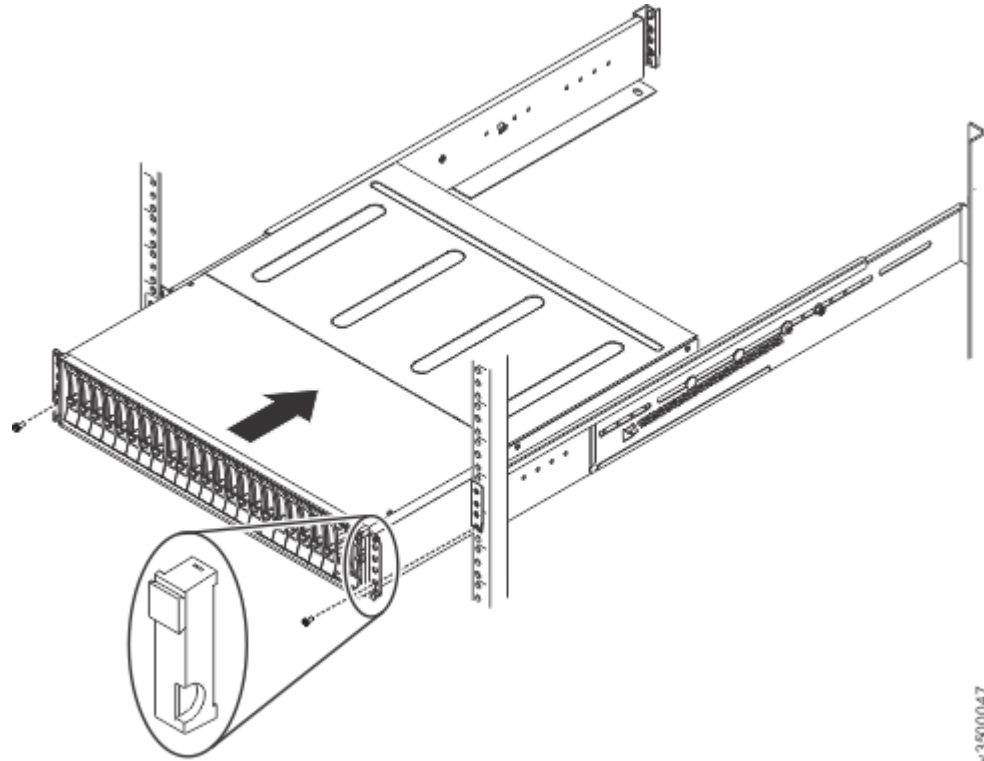

Figure 31. Inserting the enclosure
3. Slide the enclosure into the rack along the rails until the enclosure is fully inserted. (See Figure 31 on page 63.)